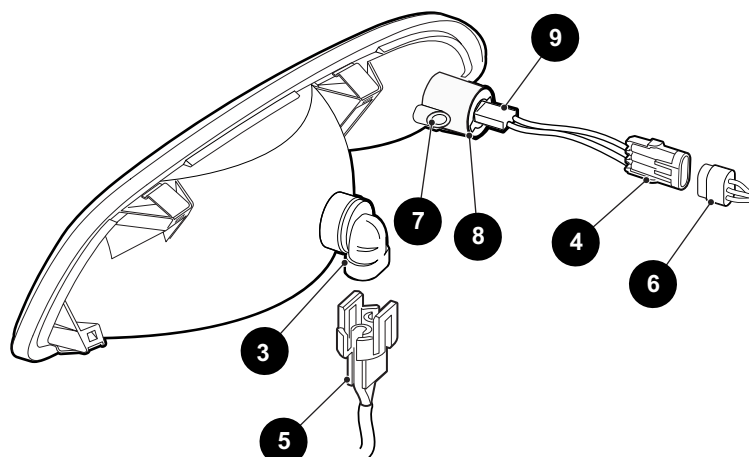

Figure 1 Headlight and Turn signal bulb replacement
- Disconnect the accessory harness (5) from the light bulb (Figure 1).
- Turn the headlight bulb (3) clockwise and pull to remove.
- Turn the bulb (3) counter clockwise until it stops.
- Connect the accessory harness (5) to the light bulb (3).
- Remove the phillips head screw (7) and turn the retaining collar (8) to align with the turn signal bulb housing (9) (Figure 1).
- Grip the turn signal bulb housing (9) and pull backward to remove housing from the headlight assembly.
- Push turn signal housing (9) into headlight assembly firmly, making sure that it is seated completely.
- Turn the retaining collar (8) to secure the bulb housing and install the phillips head screw (7) to secure in place.